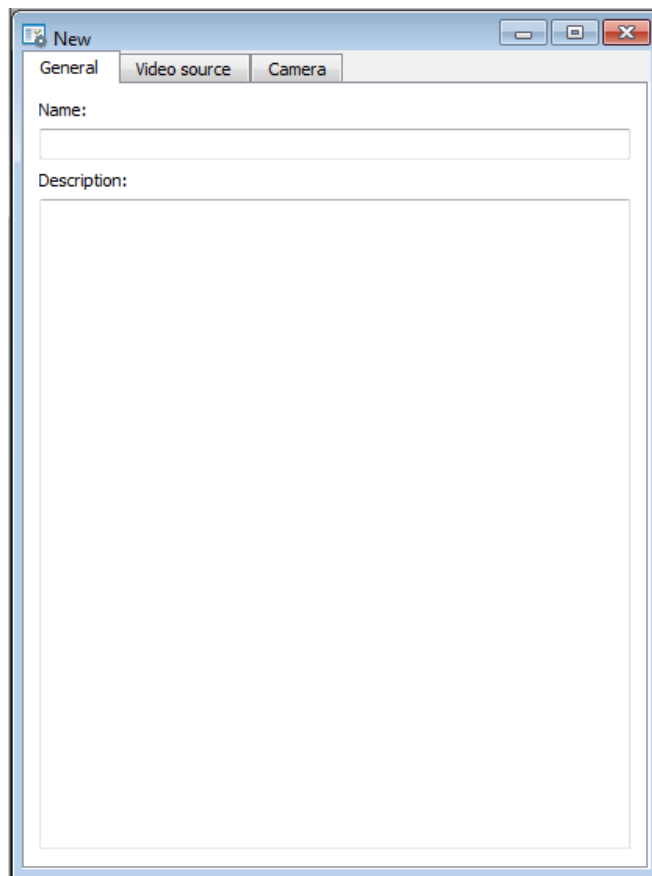

Figure 20: New project window
2. A project window as shown in Figure 20 will be opened.